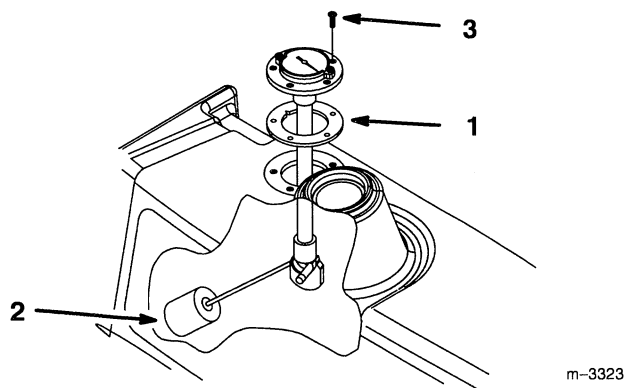

Figure 2
3. Place gasket over tank opening and rotate so screw hole align with openings (Fig. 2).
4. Lower the float arm and place through the gasket and tank opening with float toward the rear of the tank (Fig. 2).
5. Align gauge, gasket and tank screw holes. Secure gauge to tank with (5) 8-32 x 5/8" (16 mm) screws (Fig. 2). Tighten screws securely.